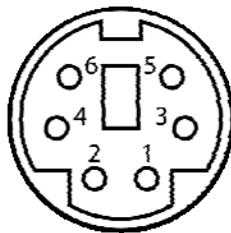

Figure 4-25: PS/2 Pinout and Configuration
- CN Pinouts: See Figure 4-25, Table 4-24